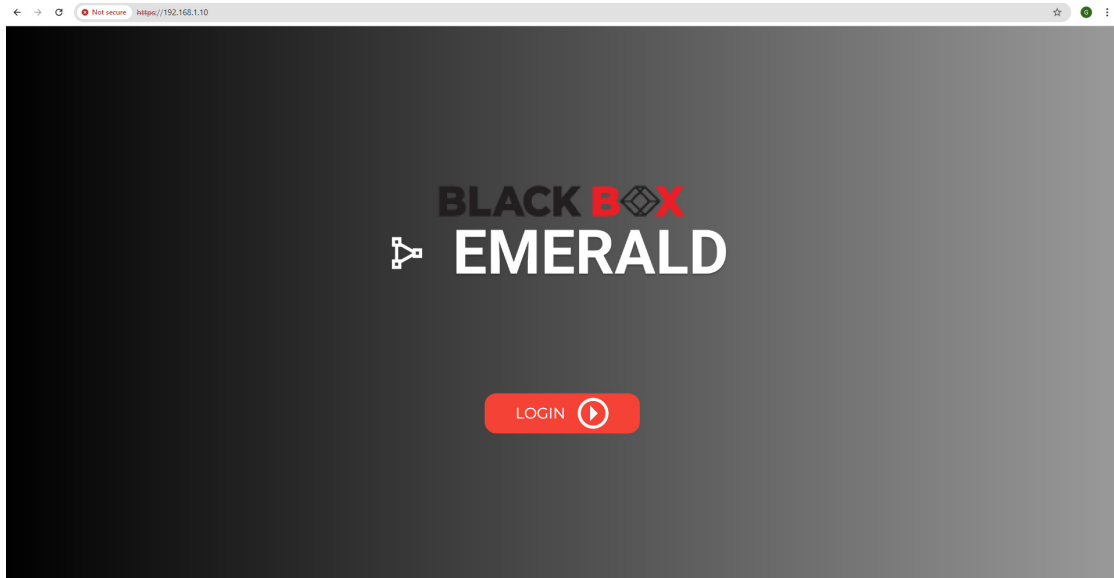

FIGURE 4-2: LOGIN SCREEN
2. After you continue to the next page, click on the Login button as shown in Figure 4-2 below to log into the Emerald® GE.